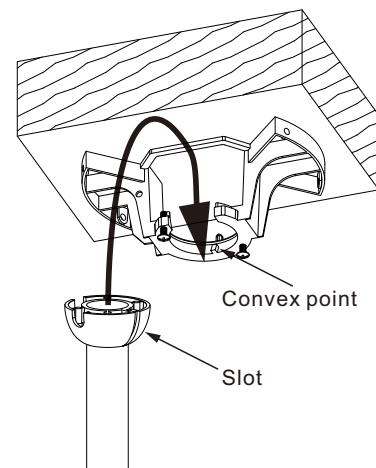

Figure 17
Step 8. Place the downrod ball into the hanger bracket socket. (Fig. 17) And rotate fan and downrod assembly until tab on bracket lines up with slot on ball.